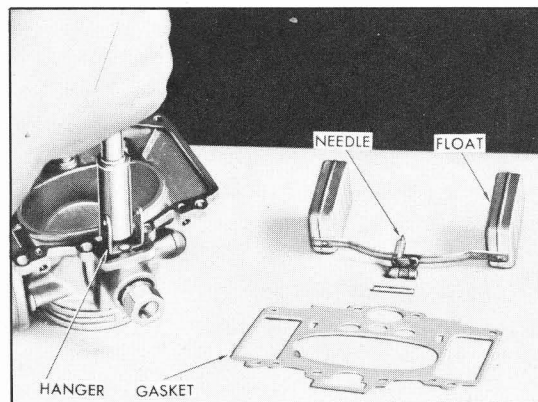

Figure 3-77—Removing Needle Valve Seat and Float Hanger
7. Tap end of float fulcrum pin which is not serrated to remove the pin, then remove float and needle valve. Shake float to see whether it is "loaded" with gasoline due to a leak. Remove needle valve seat and float hanger using Wrench T-20140. See figure 3-77.
14. Install float hanger with a new gasket on each side and install new float needle valve seat, using Wrench T-20140. See figure 3-77. Place strainer over boss in inlet opening of air horn and install gasoline connection.